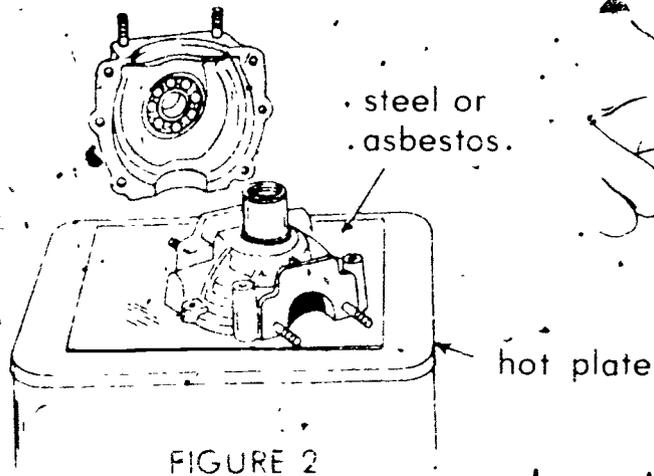

FIGURE 2
S. Remove armature plate bearing (Figures 2 and 3)